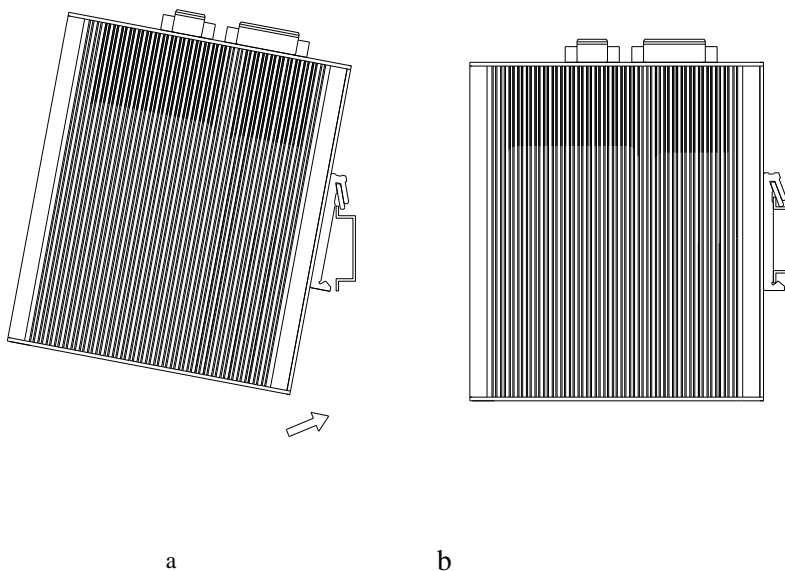

Figure 4-2 Install SICOM3005 into Rail
1. Insert the bottom of the switch into the DIN-Rail slot, and turn the equipment as figure 4-2 a
2. As Figure 4-2 b, put the DIN-Rail into slot, and make sure the switch is completely fixed on the DIN-Rail.